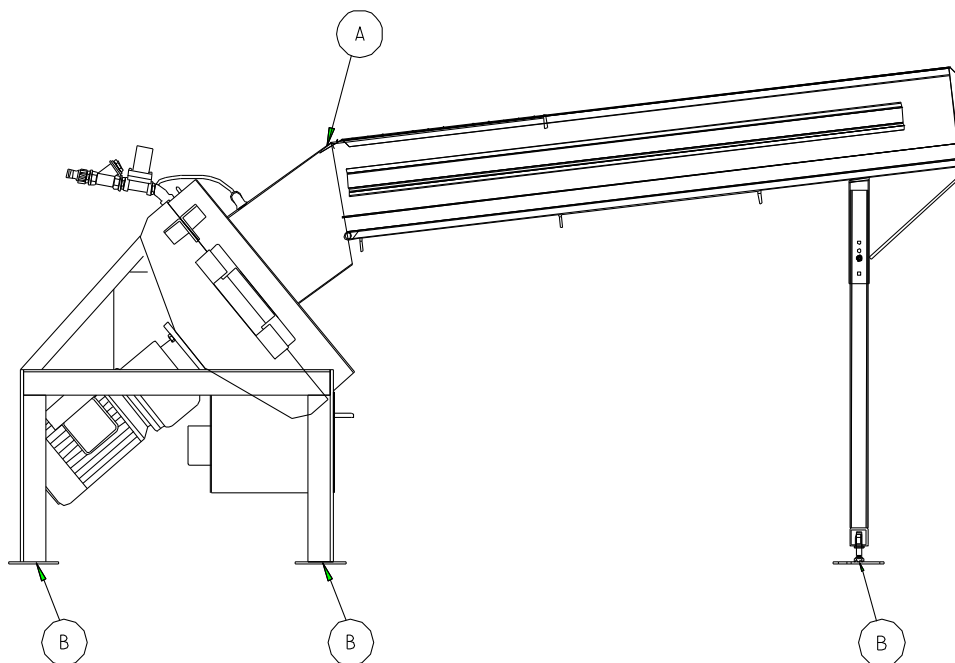

Figure 8: Assembly of BT 1950
- III. Fasten the ball tray to the washer body with the two enclosed screws.. See Figure 8 at (A).
- IV. Screw all six feet to the foundation. See Figure 8: Assembly of BT 1950 at (B).